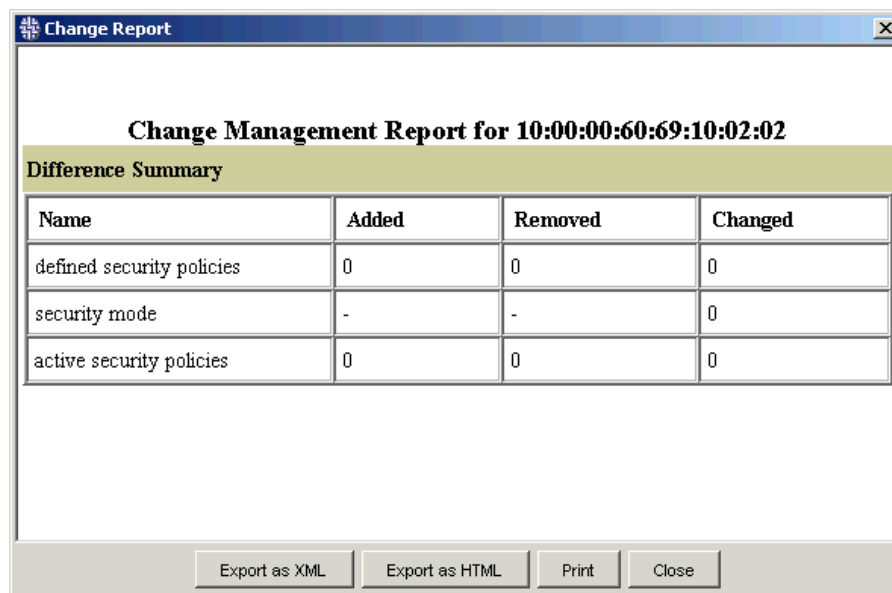

Figure 12: Change Management Change Report
4. Click **View** under the **Change Reports** area. The Change Report is displayed (see Figure 12).